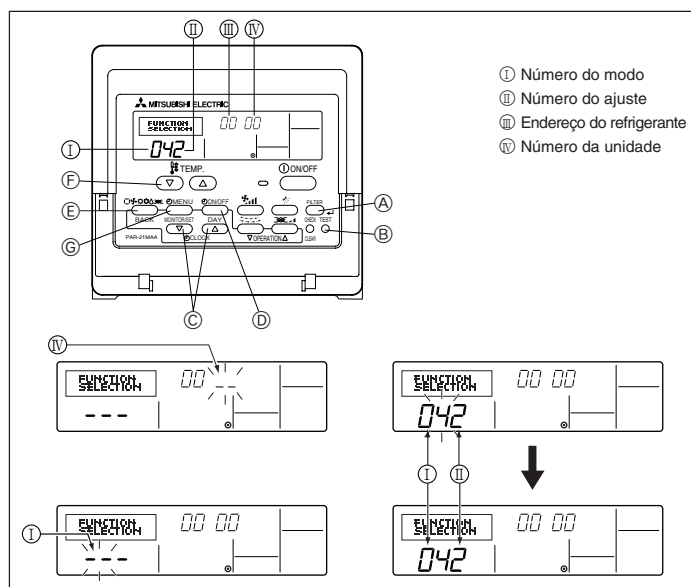

Fig. 6-8
1) Para controlo remoto com fio (Fig. 6-8)